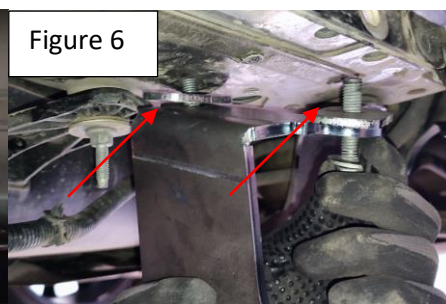

Figure 6
Step 6: Using supplied hardware and specialty spacers HTC 283, install rear bracket as shown Figure 6. Do not tighten.